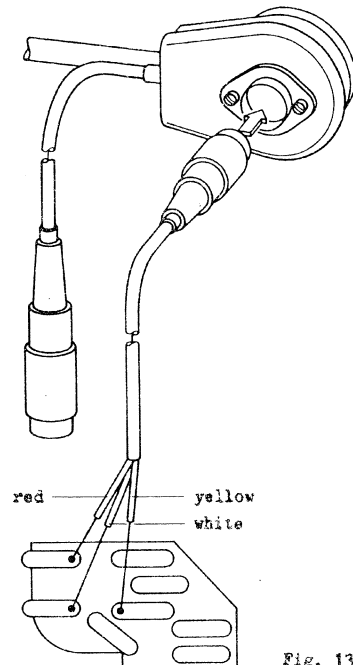

Fig. 132.1
- 3.1 Pull the black adhesive strip from the tag block. Solder the three wires of the connecting cable to the tag block as shown in Fig. 132.1.